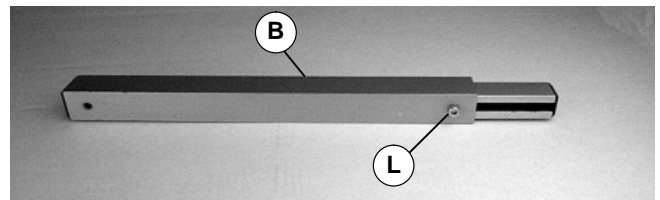

Figure 10
1. Loosen screw (L of Figure 10) of adjustable bar (B).